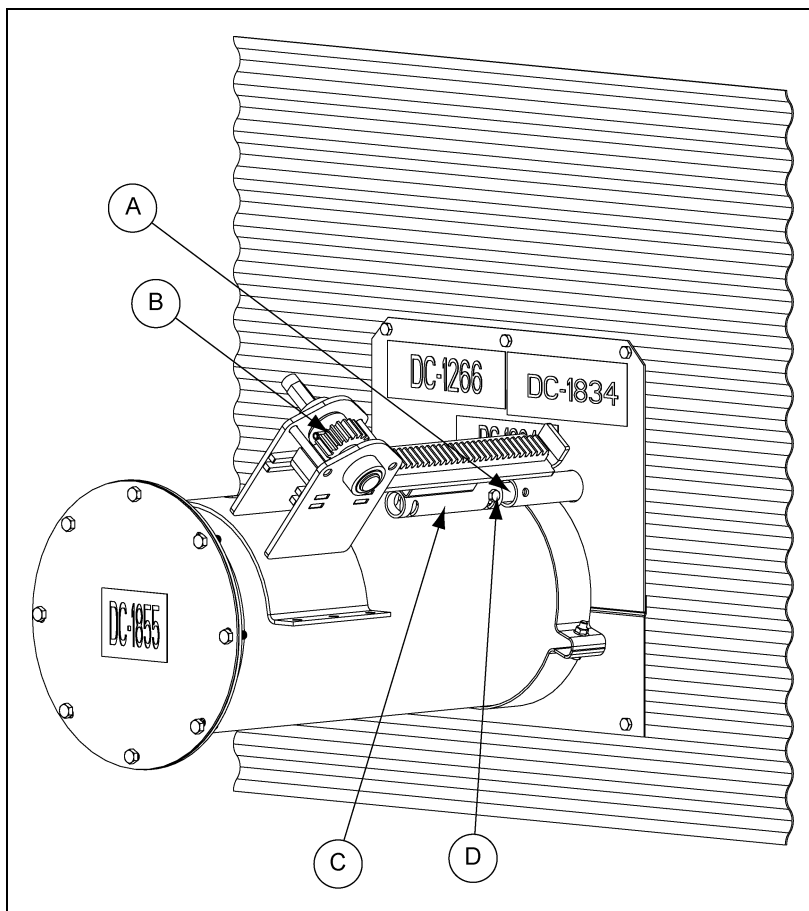

Figure 1
2. Slip rack and pinion tube over (C) center gate control rod and align holes. Make sure rack and pinion (B) is fully extended toward bin wall. *(See Figure 1.)*
3. With rack and pinion resting on unload tube and with tube holes aligned, insert one 5/16" x 1-3/4" bolt (D) through the rack and pinion tube (C) and center gate control rod. Fasten together with a nut. *(See Figure 1.)*